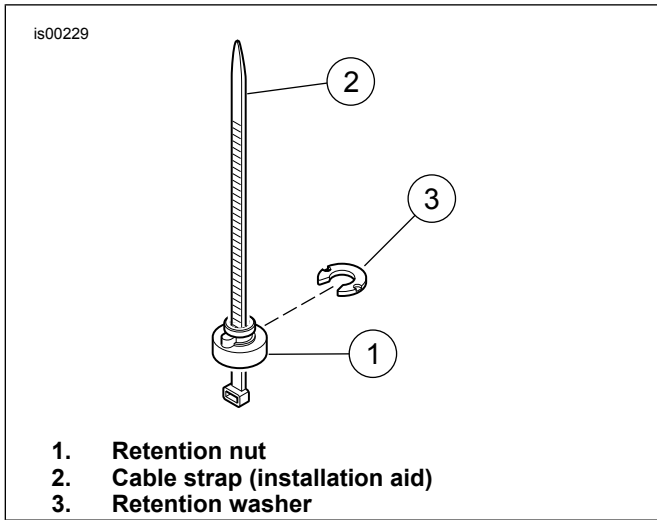

Figure 2. Install Retention Nut
3. See Figure 2. Install retainer nuts in each of the two holes in the top of the rear fender as follows:
- a. A cable strap may be used as an installation aid to remove and reinstall the retention nut and washer. Place the retention nut (1) over the cable strap (2) so the wide end of the nut rests on the eye of the cable strap. Thread the cable strap up under the fender and through the rearmost fender hole. Pull up on the cable strap to hold the nut snug against the underside of the fender.
- b. With the rib on the retention nut seated into the notch in the fender hole, slide the retention washer (3) into place from the rear. This will lock the retention nut in place. Remove the cable strap.